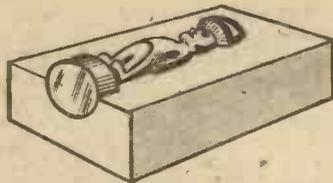
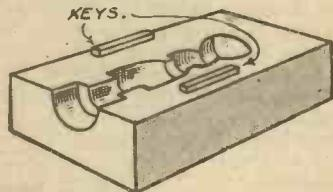
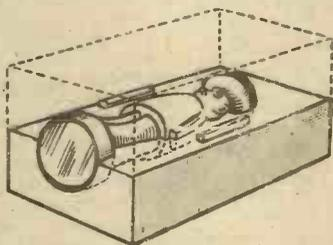

Fig. 119.—After cutting out, the toy is embedded in plaster, as shown.
Fig. 120.—Two keys must be cut, as shown here.
Fig. 121.—Increasing the height of the box.
**The Mould.**—Perhaps you desire more than one of a kind. Do not recarve. There is a much quicker method. Make a little box and fill it with plaster of paris. Grease your toy and embed it half-way in, as shown in Fig. 119. Allow this to set hard. When it has properly set, carve out two "keys," as shown in Fig. 120. Now grease the whole of the surface of the plaster of paris and what is still exposed of the toy. Increase the height of the box sides, as shown in Fig. 121. Then mix up a fresh supply of plaster of paris, pour in flush to the top of the box, and allow to set hard.